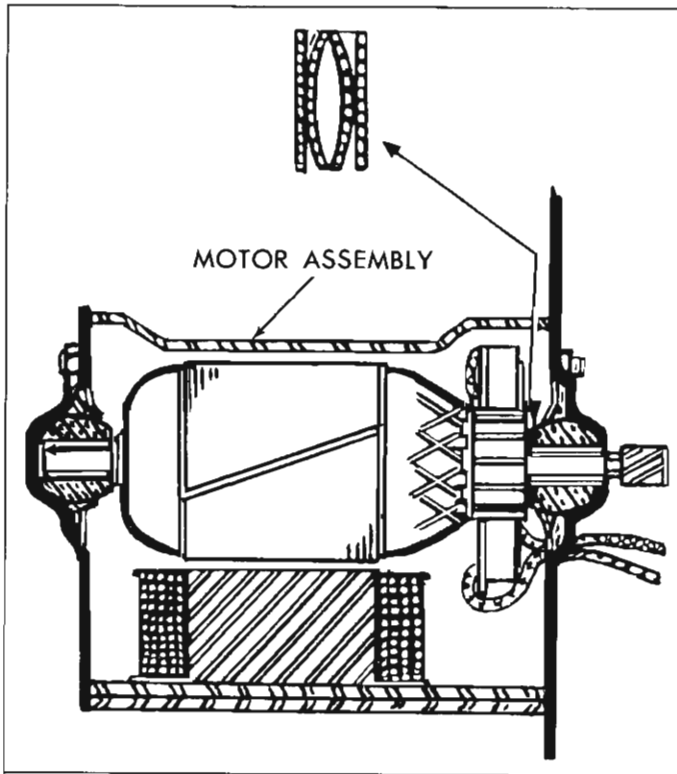

Fig. 43—End Play Wave Washers Installed
**NOTE:** Lubricate armature shaft bushings with light machine oil. Armature end play is automatically adjusted by the proper installation of end play wave washers (fig. 43).